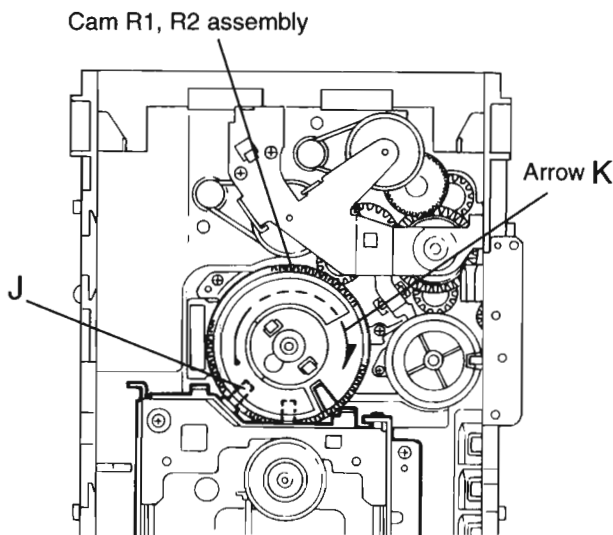

Fig.11
■ Removing the CD traverse mechanism (See Fig.11 and 12)
1. For dismantling only the CD traverse mechanism without removing the CD loading mechanism assembly, align the shaft "J" of the CD loading mechanism assembly to the position shown Fig.11 while turning the cam R1 and R2 assembly in the arrow direction "K" .
■ **Removing the Reel Pulse P.C.Board and Solenoid (See Fig 11)**
1. Remove the five pawls (③ ④ ⑤ ⑥ ⑦) retaining the reel pulse P.C.Board.
2. From the surface of the reel pulse P.C.Board parts, remove the two pawls ⑧ and ⑨ retaining the solenoid.